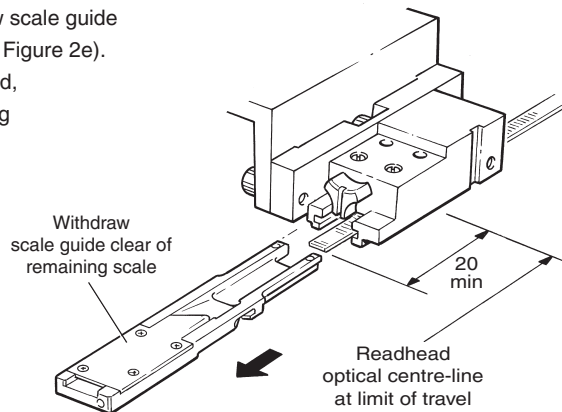

Figure 2e Scale guide removal
- At limit of travel, the remaining scale will probably still be engaged in the scale guide. Lock the axis and manually withdraw scale guide from the scale applicator head, (see Figure 2e). If an extension handle has been used, it can be removed before withdrawing scale guide, or afterwards if access is restricted.